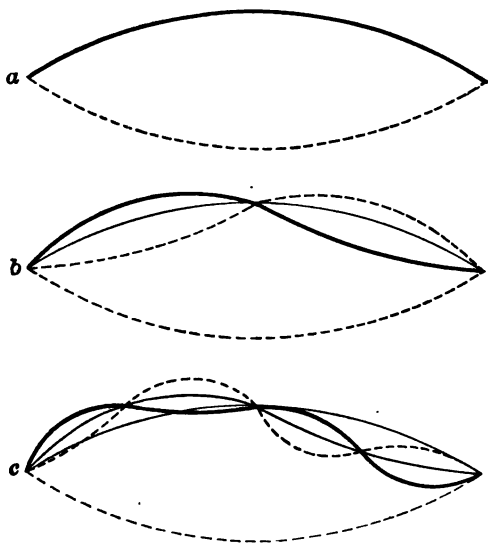

FIG. 132
**185. Vibration in Parts; Overtones.** — A string may be made to vibrate as a whole (*a*, Fig. 132); at the same time it may be vibrating in halves, as in *b*, and also at